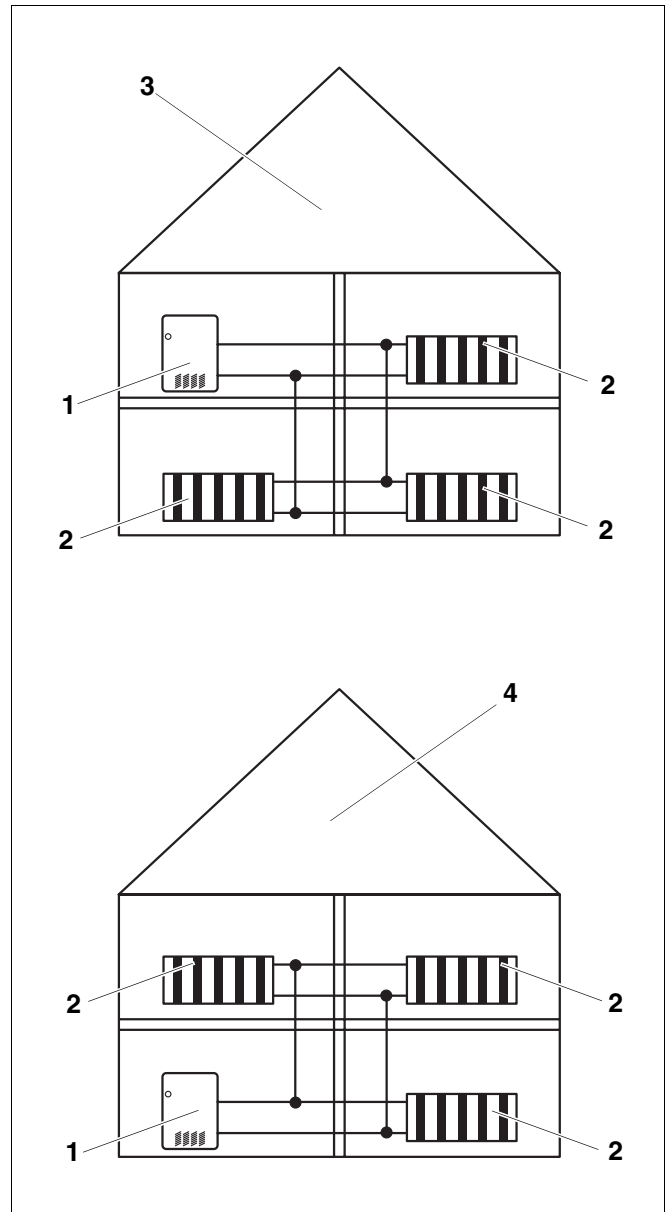

Fig. 9 Low-water alarm
- Note that a boiler installed above the level of the heating system must be fitted with a low-water alarm. The low-water alarm must be installed during installation of the boiler (→ Fig. 9).